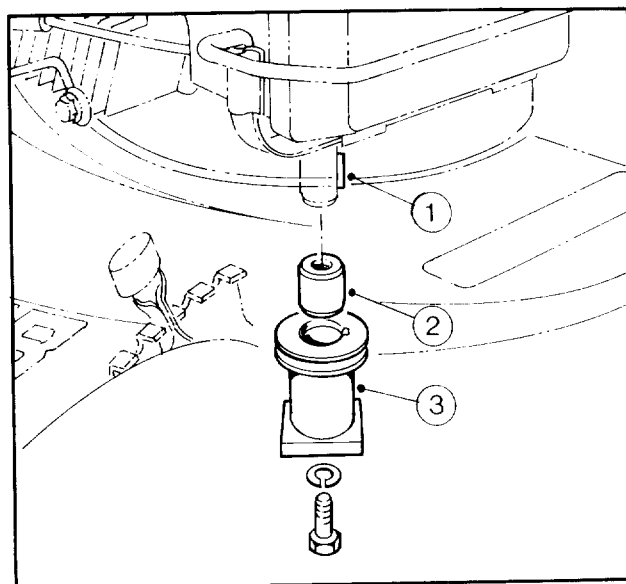

Figure 1
2. Loosely secure key, pulley spacer and blade retainer to engine crankshaft (Fig. 1). Do not install blade at this time.